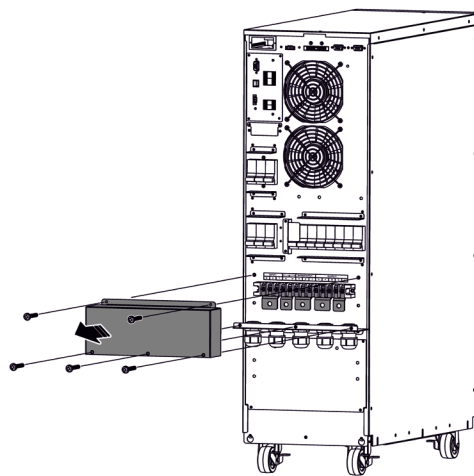
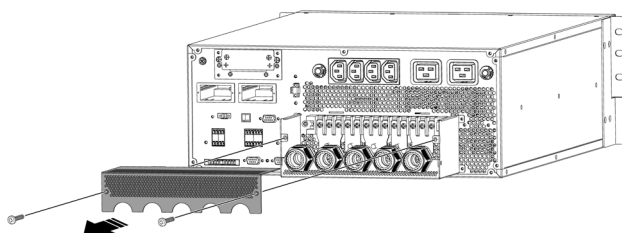

Fig. 32. Removing the protection cover of the connection terminals in the tower version.
Fig. 33. Removing the protection cover of the connection terminals in the rack version.
- Before proceeding with the connection, it is necessary to remove the protective cover from the terminal block, as shown below in Fig. 32 y Fig. 33: